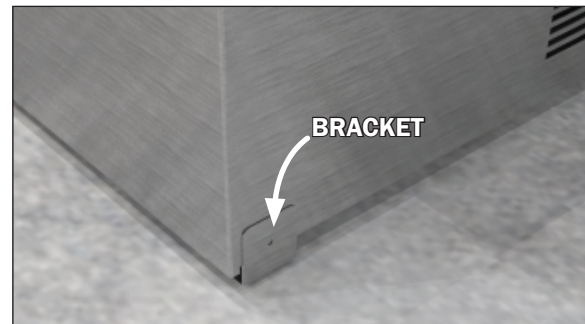

Fig. 2 Seismic anchoring locations (bullet legs)
8. (BULLET LEGS) If necessary, attach two brackets at two separate corners of the case (Fig. 2) and fasten to the floor with concrete anchors. **Note: The brackets do not need to be affixed in the exact locations specified here. However, be sure that the anchors are close to the corners and that at least two brackets are used, one at each corner.**